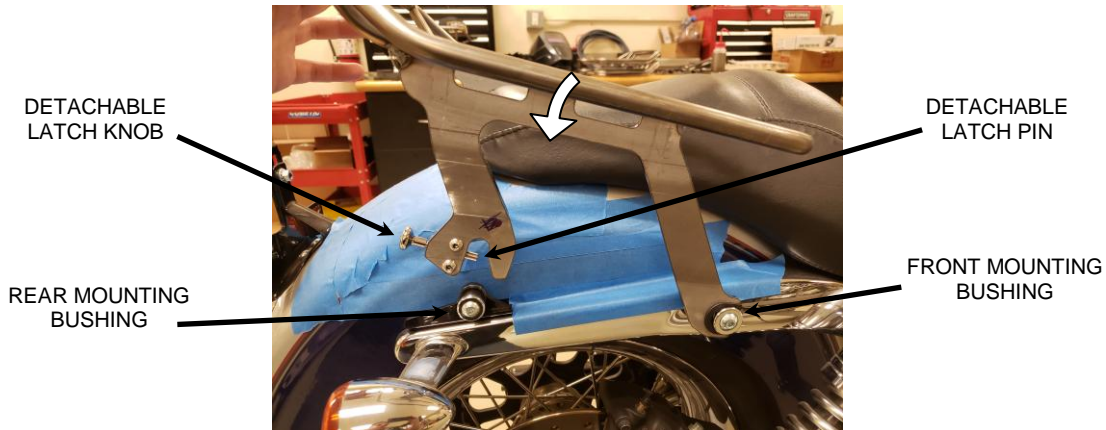

FIGURE 4
12. Install the detachable rack onto the motorcycle by first inserting the front portions of the side plates on to the front mounting bushings on the frame rails. Make sure the rack is seated all the way onto the mounting bushings. See **FIGURE 4**.
13. Then slowly rotate the rack downward so the rear portions of the side plates slip over the rear mounting bushings. See **FIGURE 4**.